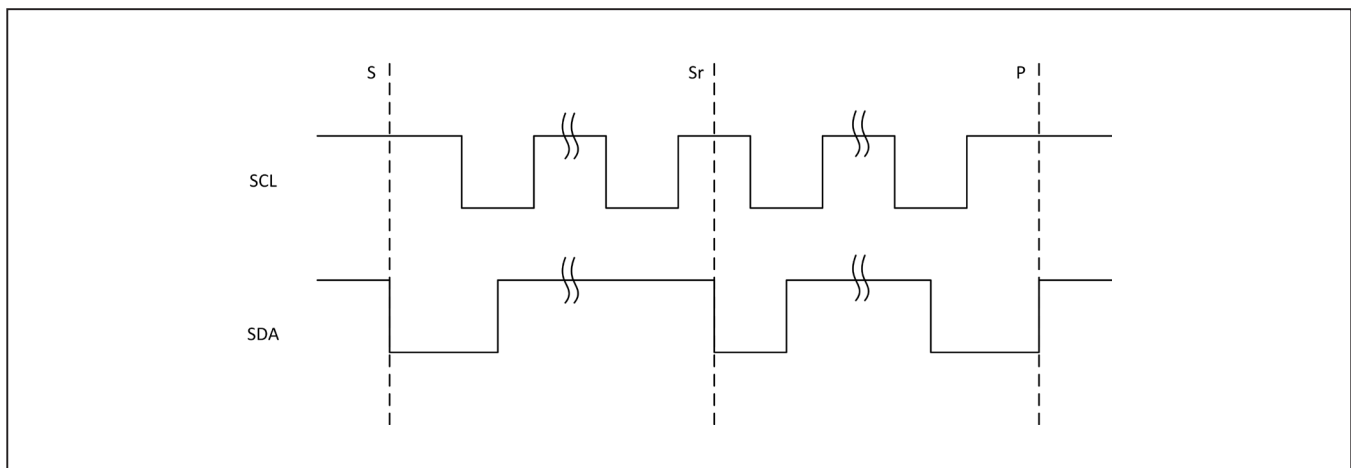

Figure 30. START, STOP, and REPEATED START Conditions
The MAX98372 features an I2C 2-wire serial interface consisting of a serial data line (SDA) and a serial clock line (SCL). SDA and SCL facilitate communication between the IC and the master at clock rates up to 400kHz. Figure 30 shows the 2-wire interface timing diagram. The master generates SCL and initiates data transfer on the bus. The master device writes data to the IC by transmitting the proper slave address followed by the register address and then the data word. Each transmit sequence is framed by a START (S) or REPEATED START (Sr) condition and a STOP (P) condition. Each word transmitted to the IC is 8 bits long and is followed by an acknowledge clock pulse. A master reading data from the IC transmits the proper slave address followed by a series of nine SCL pulses. The IC transmits data on SDA in sync with the master-
SDA and SCL idle high when the bus is not in use. A master initiates communication by issuing a START condition. A START condition is a high-to-low transition on SDA with SCL high. A STOP condition is a low-to-high transition on SDA while SCL is high (Figure 30). A START condition from the master signals the beginning of a transmission to the IC. The master terminates transmission, and frees the bus, by issuing a STOP condition. The bus remains active if a REPEATED START condition is generated instead of a STOP condition.